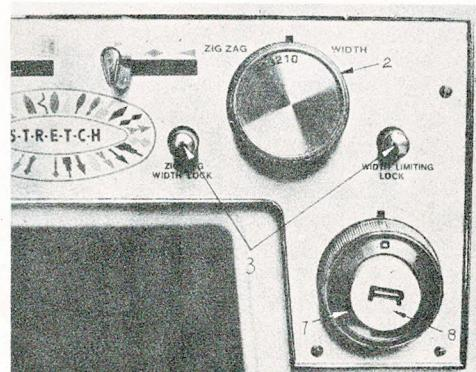

Fig. 12
Be sure to set the stitch width at "0." Adjust locking knobs (3) to hold zigzag width control dial (2) in 0 position. (Fig. 12).
The length of the stitch is regulated by knob 7 stitch length control shown in Fig. 12. Near "0" is the shortest stitch and 5 is the longest.
When you wish to sew in reverse to tie the thread at the beginning or the end of a seam, press in the reverse push button(8)Fig. 12 as far as it will go. The machine will sew backward as long as the button is held in. Only 4 or 5 stitches are needed to tie a seam securely.
To stitch continuously at one width of zigzag stitching set lock 3 (Fig. 12) to hold zigzag width control dial at width chosen. Should you wish to move freely between any two widths, (in doing free hand embroidery), move zigzag width control dial to the right and set left hand locking stopper at desired width.